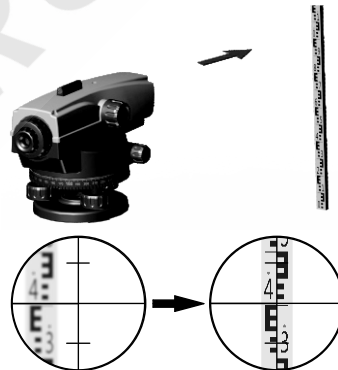

Fig. 4
- Target the staff through the peep sight. Then rotate the focusing knob to ensure that the staff image is clear. Coincide the vertical hair with the middle of the staff (fig. 4).